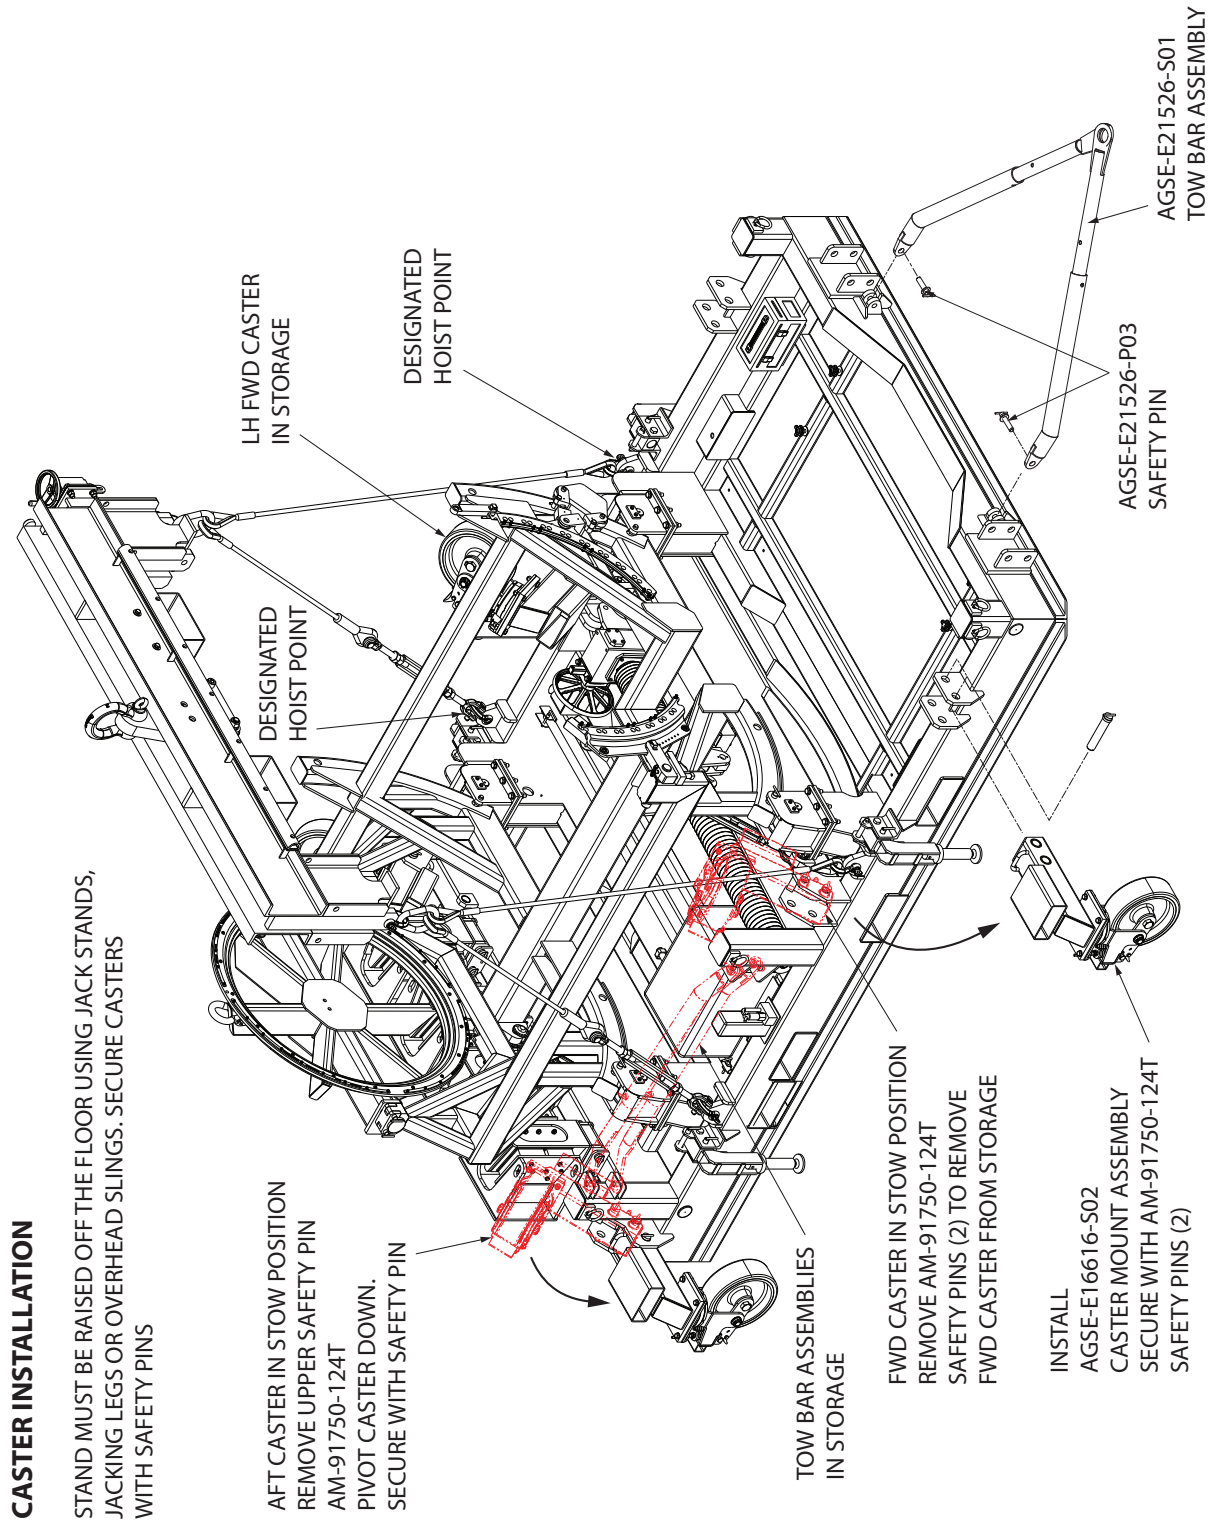

Figure 5.6-1 Casters and Tow Bars Installation
5.6 Casters and Tow Bar Installation and Usage (Figure 5.6-1)
1. Rotate the caster so the steering socket is positioned away from the stand for accessibility. Attach a suitable chocker style web sling with a minimum 1,000 lbs (455 kg) through the tube socket and connect to and overhead crane or forklift as shown in Figure 5.6-1.